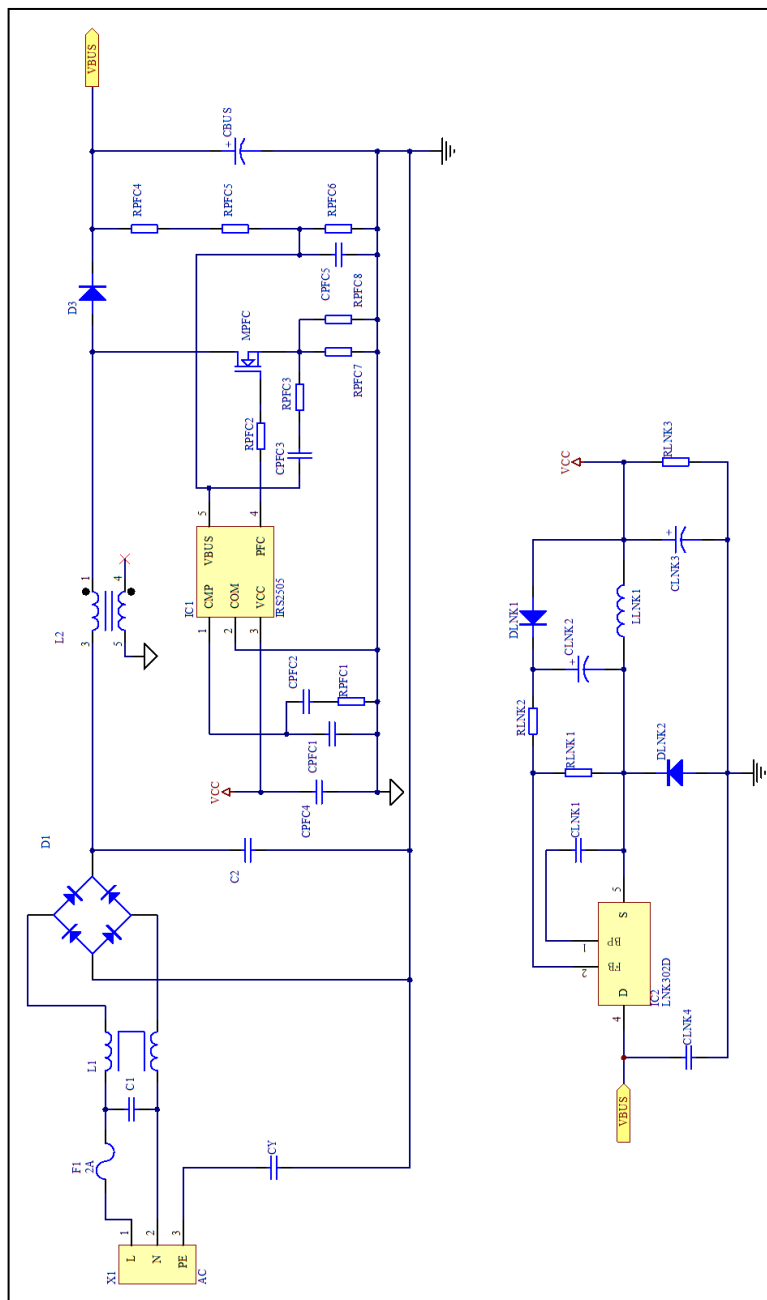

Figure 4.1: IRPLHID2A Circuit Schematic 1
the buck high-side and full-bridge high and low-side output drivers are activated. The low voltage power supply is realized with buck converter circuit utilizing the Link Switch LNK302D (Figure 4.1). Once the voltage on VCC reaches the start-up threshold (UVLO+), voltage on VSENSE pin is above VOV threshold and the voltage on RST pin is less than 1.5V, the IC turns on and the full-bridge oscillator (CT) and gate driver outputs (HO1, LO1, HO2 and LO2) begin to oscillate. During UVLO mode, the full-bridge and buck are off, the ignition timer and clock are off, the fault and good counters are reset, and the fault latch is reset.